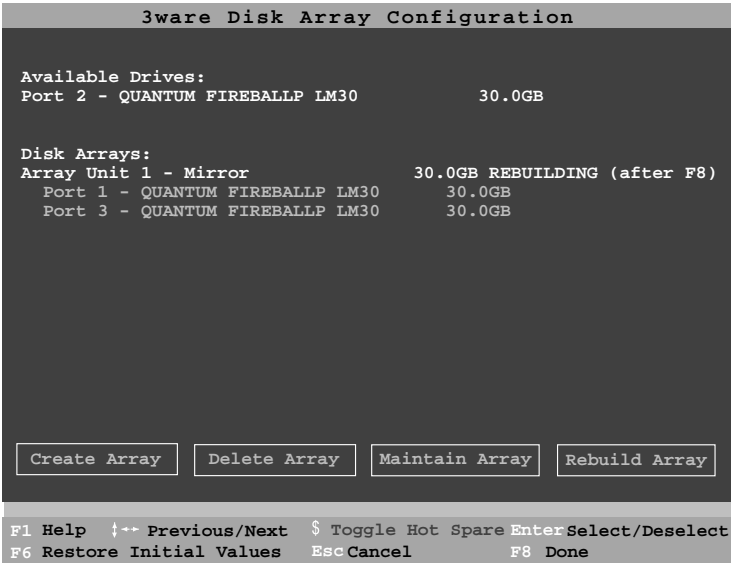

Figure 17. Rebuild Array Status Display, RAID 1 Example
- 7 Navigate to the **Rebuild Array** button and press **Enter** (see Figure 17). A status screen will be displayed with your requested array and member drives.